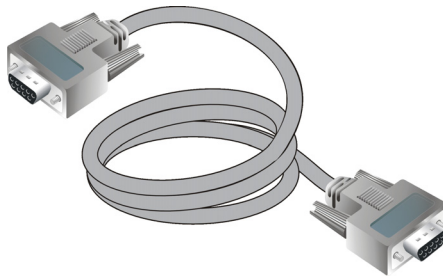

Figure 1-14 Null Modem Cable
- **Null modem cable** - An asynchronous RS-232 null modem cable (Figure 1-14) is required to configure switch network addresses and acquire event log information through the maintenance port. The cable has nine conductors and DB-9 male and female connectors.